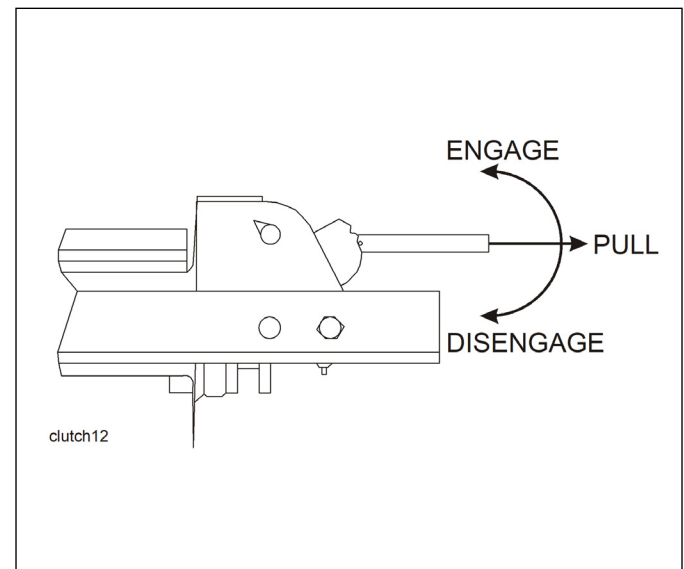

Figure 3-3: 12,000# Winch Clutch
- a. The **12,000#** winch clutch handle must be pulled out to change positions and pushed in to lock into one of two positions (See **Figure 3-3.**):